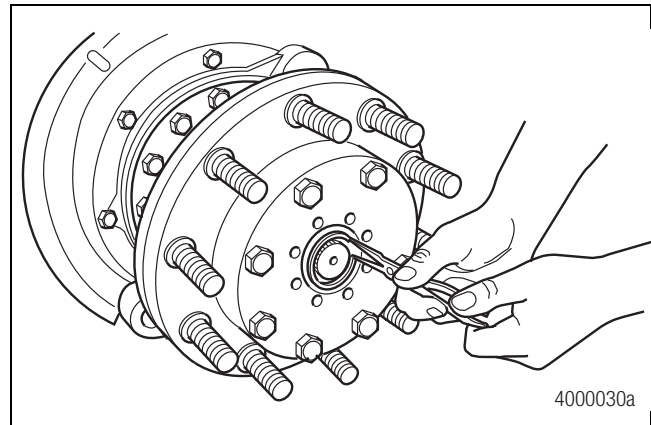

Figure 3.5
2. Remove the snap ring from the end of the axle shaft. Figure 3.5.